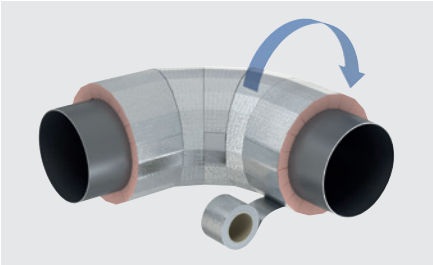

Figure 22: Repeat until full angle of the elbow is completed
- The procedure shall be repeated until the full angle of the elbow is achieved and all longitudinal joints are taped (Figure 22).